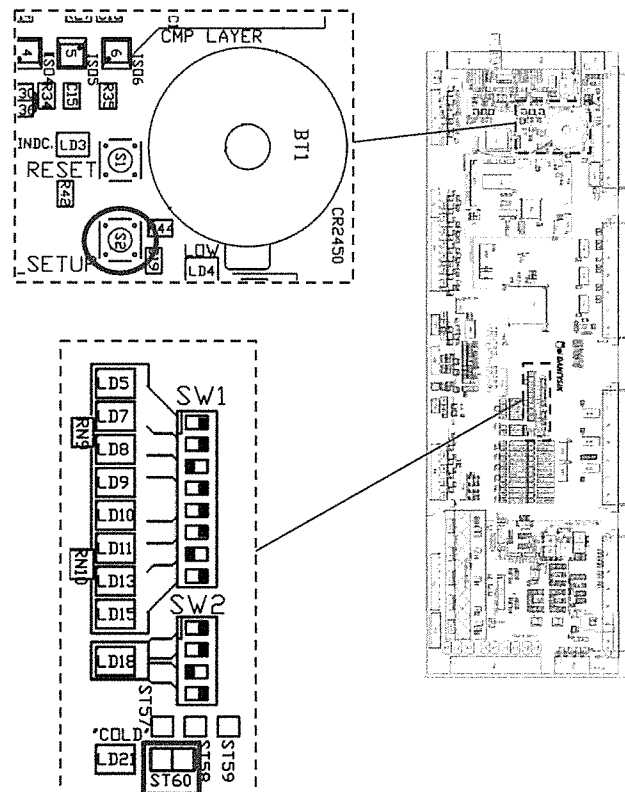

Figure 12. Control board, location of ST60 and S2
1. Short-circuit ST60 (below SW2). Simultaneously press and hold S2. See Figure 12, page 34.